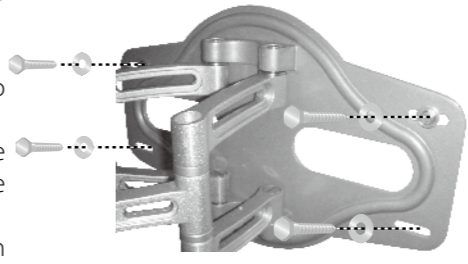

Fig. 1 - Attach the wall plate to the wall.
- Place the mount back against the wall and secure it using the Lag Bolts (Q) and Lag Bolt Washers (R) provided (see Fig. 1). Do not over-tighten these bolts and do not release the mount until all bolts are in place.
- Insert a Concrete Anchor (P) into each hole so that it is flush with the concrete surface. A hammer can be used to lightly tap the anchors into place if necessary.